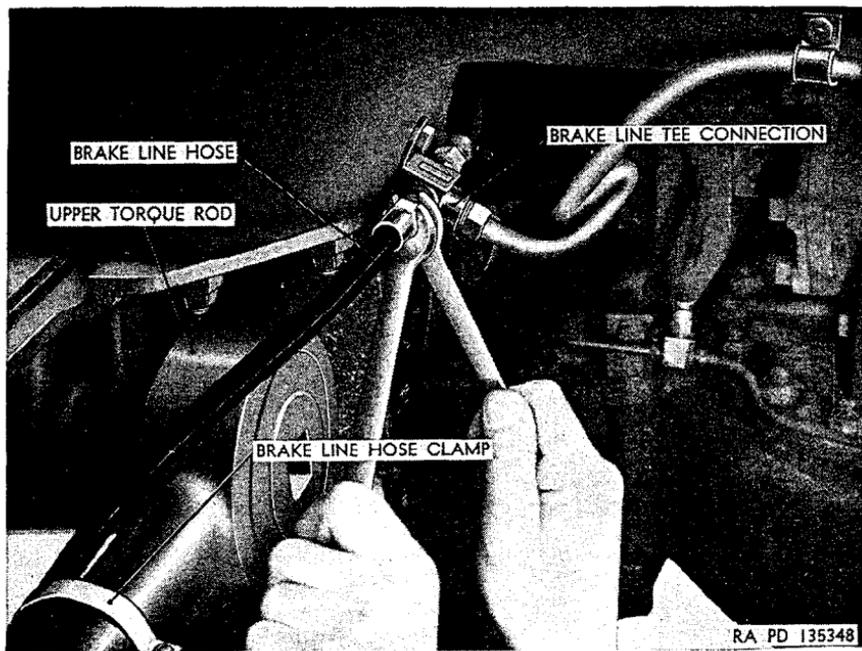
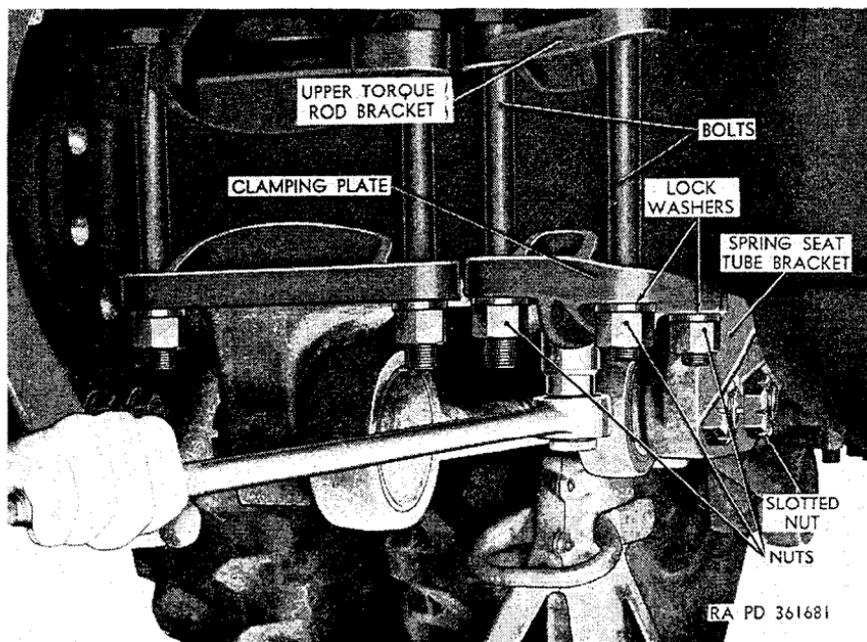

Figure 231. Disconnecting hydraulic brake line hose.
Figure 232. Disconnecting upper torque rod.
- (2) *Remove wheel and tire assemblies.* Remove wheel and tire assemblies from both ends of axle assembly to be removed (par. 241).
- (3) *Disconnect brake line* (fig. 231). Unscrew connector securing brake line hose to connection at frame rear suspension cross member, and remove line from tee. Remove brake-line-hose clamps from upper torque rod, and remove hose from rod.
- (4) *Disconnect propeller shafts.* Disconnect adapter flange on rear end of transfer-to-forward-rear-axle propeller shaft from companion flange at front of forward-rear-axle differential (par. 211c). Disconnect adapter flange on front end of forward-rear-axle-to-rear-rear-axle propeller shaft from companion flange on rear of forward-rear-axle differential.
- (5) *Disconnect upper torque rod* (fig. 232). Remove four nuts and lockwashers from four bolts securing upper torque rod bracket and clamping plate to right end of axle housing. Remove the clamping plate from underside of axle housing, and remove the two front bolts and the right rear bolt from the torque rod bracket.
(fig. 232) and the right rear bolt in torque-rod-bracket holes, install clamping plate on bolts from underside of axle housing, and install four lockwashers and nuts of the four bracket mounting bolts. Tighten nuts.
- (4) *Connect propeller shafts*. Connect adapter flange on rear end of transfer-to-forward-rear-axle propeller shaft to companion flange at front of forward-rear-axle differential (par. 211*d*). Connect adapter flange of front end of forward-rear-axle-to-rear-rear-axle propeller shaft to companion flange on rear of forward-rear-axle differential.
- (5) *Connect brake line* (fig. 231). Position brake line at tee connection on frame rear suspension cross member, and tighten connector. Position brake hose on upper torque rod and install two clamps.
- (6) *Bleed brakes*. Bleed rear wheel brakes (par. 221).
- (7) *Install wheel and tire assemblies*. Refer to paragraph 241.
- (8) *Lubricate*. Lubricate axle assembly and propeller shaft universal joints (par. 67).